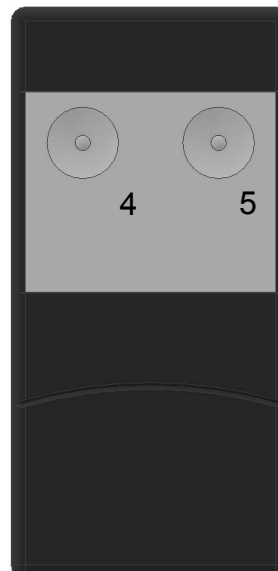

fig. 12
3. While holding down the programming button, press the first button on the handheld transmitter at the same time (Fig.12 No.4). The LED (Fig.11 No.3) now flashes quickly after the hand transmitter recognition.
5. To read in the second channel, repeat the process from step 2 using the second button on the handheld transmitter (Fig.12 No. 5).